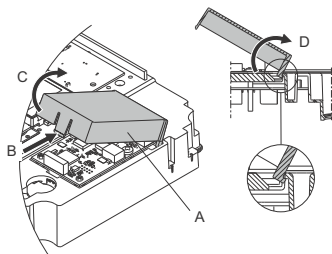

Fig. 57 Removing the CIM cover
2. Remove the CIM cover (fig. 57, A) by pressing the locking tab (fig. 57, B) and lifting the end of the cover (fig. 57, C). Then lift the cover off the hooks (fig. 57, D).